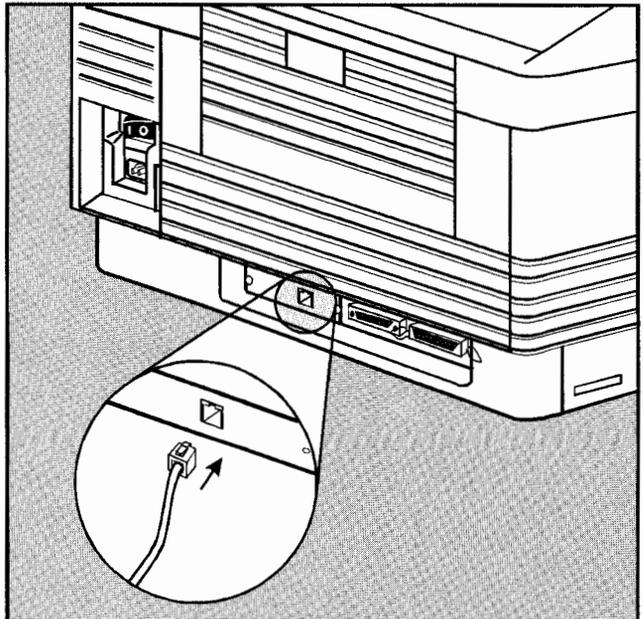

Figure 3-15. Attaching the Network Cable
1. Plug the 8-pin connector of your twisted-pair network cable into the 8-pin 10BASE-T LAN jack on the faceplate of the adapter card (see Figure 3-15). The other end of the cable should then be attached to a twisted-pair hub/concentrator.